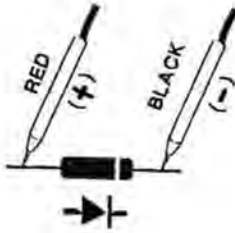

Fig. 2
- 4) a. When connected with polarity as shown in Fig. 2, a forward current flow is established and the approx. Diode Forward Voltage (VF) value in volt will appears on the display reading. If the diode under test is defective, " 0.000 " or near " 0.000 " value (short circuit) " OL " (open circuit) will be displayed.